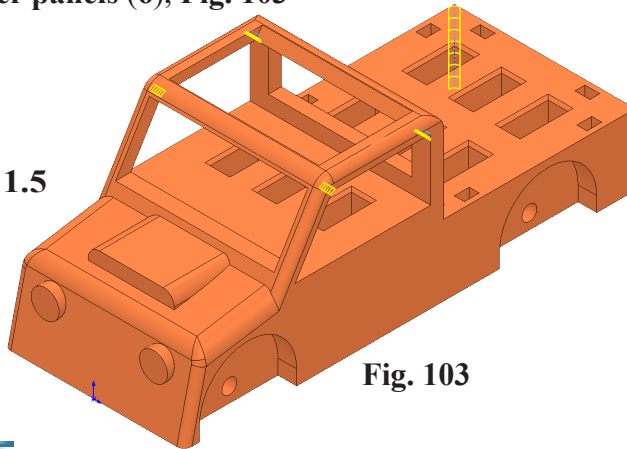

Fig. 103
rear quarter panels (6), Fig. 103